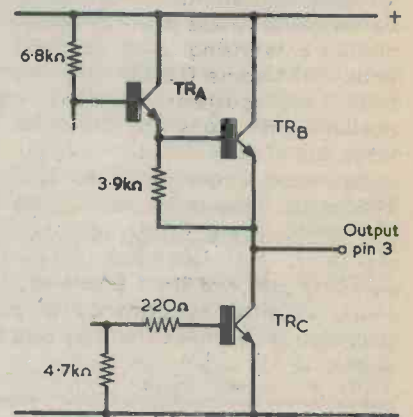
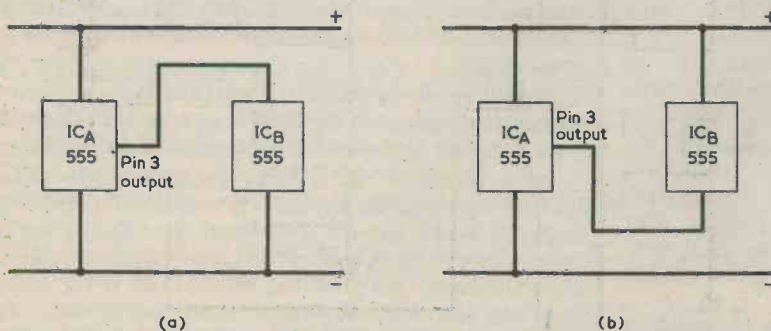

Fig. 2. The internal output stage circuit of the 555. Resistor values are nominal
Fig. 1(a). One way of using a 555 i. c. to switch another 555. The second i. c. is turned on when the output of the first goes high
Fig. 2(a) (b) (c) (d) (e). Section of the receiver "chassis" and case (f) Details of the coil, in which the ferrite rod slides to give selection of the six waveranges (g) S.R.B.P. item onto which switch S1 is secured (h). The drive drum is fitted over the spindle of the switch, the spindle passing through hole J of Fig. 2(b) (i) Side view showing the internal assembly of the main parts of the receiver
Construction commences with the cutting out and drilling of the sections shown in Fig. 2(a) (b) (c) (d) and (e). These provide both the "chassis" and five sides of the case. A second piece of s.r.b.p. should be cut out identical to Fig. 2(e) but without holes U, V, ZA and ZB. This can be fitted opposite Fig. 2(e), forming the sixth side of the case, and can be the side which opens to provide access to the inside of the completed receiver. The small holes, D, E, F, G, and the corresponding four holes in Fig. 2(b) and Fig. 2(e) are for woodscrews used to assemble the parts together. Their exact positioning is not important provided that they are $\frac{1}{8}$ in. from the ends. The woodscrews then pass into the $\frac{1}{8}$ in. plywood edges. The sixth opening side could, instead, be fastened by short lengths of 6BA studding cemented into the plywood, 6BA terminals then securing the side in position. Holes W, X, Y and Z in the sixth side will then need to be $\frac{1}{8}$ in. in diameter. Holes ZA and ZB are for mounting the 10-way tagstrip, the latter being used to mark out their positions.
the backing paper, $\frac{1}{8}$ in. wide, at one of the $2\frac{1}{2}$ in. edges. Wrap the Fablon around the ferrite rod with the exposed strip last, so that it secures the tube thus formed. The rod should be able to move in the tube easily but without wobble. Cut a piece of $\frac{3}{8}$ in. wood dowelling $\frac{1}{2}$ in. long, wrap a turn or two of Sellotape around it to ensure that it is a tight fit and insert it at one end of the tube. Drill a $\frac{1}{8}$ in hole through the tube and the middle of the dowelling as shown in Fig. 2(f). Insert the rod into the tube to strengthen it and, starting $\frac{1}{8}$ in. from the end remote from the dowelling, wind onto the tube 25 turns of 26 s.w.g. enamelled wire, spacing out the turns so that the winding ends $\frac{5}{8}$ in. from the dowelling end of the tube. Use Sellotape to secure the winding ends, but not along the coil.
Mount VC1, VR1 and VR2/S2 to the item of Fig. 2(a) as shown in Fig. 2(i) and Fig. 3 A piece of
Fig. 3. Assembly and wiring of the components. The item of Fig. 2 (g) is omitted for clarity. Note how each setting of S1 allows the ferrite rod to move to a different position inside the coil. Before wiring to S1 confirm with a continuity tester the six outer tags corresponding to the inner switch arm tag. Similarly check the appropriate tags of S2 before wiring to it.
metal foil or thin metal sheet, about 2in. square with a $\frac{3}{8}$ in. hole at the centre, should be fitted between VC1 and the panel to overcome hand capacitance effects. Mount the coil assembly in the following manner. Pass a 1in. 6BA countersunk bolt through hole R of Fig. 2(b) and secure it on the inside with a 6BA nut. Pass the hole at the dowelling end of the coil over the bolt and secure the coil with another nut. Secure with nuts on the inside a 1in. 6BA countersunk bolt at hole P, and a $\frac{1}{2}$ in., 6BA countersunk bolt at hole M. Put two 6BA nuts, locked together, at the end of each bolt. The nylon cord passes over the bolts and the locked nuts prevent it slipping over the bolt ends.
Cut out the item shown in Fig. 2(g) and secure the bush of S1 to this. Fit the $1\frac{1}{2}$ in. drum to S1 spindle with the cord hook away from the switch and
the drum bush well against that of the switch. Make a loop in one end of the nylon cord and pass it through the hole in the side of the drum and over the cord hook. (The cord is fitted to the drum now as it is difficult to reach the hook later). Slip the item of Fig. 2(g) over two 1in. countersunk 4BA bolts passing through holes H and K of Fig. 2(b) and adjust the spacing nuts shown in Fig. 2(h) so that the forward surface of the drum presses lightly against the item of Fig. 2(b). Fit a solder tag over the bolt passing through hole H, then add a third pair of nuts to hold the assembly firm. The pressure on the drum should be just enough to add a little stiffness to the rotation of S1 spindle. The solder tag provides an anchor point, when wiring is carried out, for one of the connections to VR3.
Now fit the 10-way tagstrip to the section of Fig. 2(e) so that it takes up the position shown in Fig. 3. Two 4BA nuts and bolts are required here. The tagstrip is cut from an RS Components "Standard" 28-way tagstrip such that two of the tags which also provide mounting appear at the points marked ZA and ZB in Fig. 3. The tagstrip is secured at these two points with 4BA bolts and nuts. There will be a further mounting tag on the tagstrip but this is not employed for mounting purposes. Wire in small components as in Fig. 3, at this stage, omitting components and wiring between panels and, also, the telescopic aerial and VR3. Assemble the "chassis" to take up the form shown in Fig. 2(i). The telescopic aerial can then be fitted. A solder tag held under its base allows connection to be made to it.
s.r.b.p. item which was cut out at the same time as that of Fig. 2(e).
In Fig. 1 (a) the output of ICA controls the operation of ICB, turning on the latter when ICA output is high. The operating current of ICB (and its immediate circuitry) is supplied, when it is turned on, through the output stage of ICA. In Fig. 1 (b) a similar situation is given, except that ICB is turned on this time when the output of ICA is low. Again, the operating current for ICB is provided by way of the output stage of ICA.
At first sight, there may appear to be little to choose between the two modes of operation but, when we look at the internal output stage inside the 555, we find that there are considerable differences. This output stage is shown in Fig. 2. When the 555 output is high, the high
voltage is maintained by the current passing through the 6.8K Ω resistor into the input base of the Darlington pair consisting of TRA and TRB. The bottom transistor, TRC, is cut off. It will at once be apparent that, even with a negligibly low load current, the output voltage must be less than the positive supply rail voltage by the base-emitter voltage drops in TRA and TRB these drops totalling about 1.2 volts. Further, the output voltage regulation, although quite adequate for normal 555 applications, is by no means perfect, and the output voltage can fall noticeably as load current increases. If, therefore, the switching circuit of Fig. 1 (a) is employed, the supply voltage provided through ICA to turn on ICB will be at least 1.2 volts below the positive rail and can be lower again if ICB draws a high current.
Returning to Fig. 2 the output state given when the 555 output is low is provided by having TRA and TRB cut off, and TRC turned hard on. In this case the voltage drop between TRC emitter and collector will be typically less than 0.1 volt at low currents, rising to only slightly higher than some 0.2 volt at quite high load currents. Currently available 555 i.c.'s appear to be particularly good in this respect, those checked by the author exhibiting less than 0.2 volt drop at load currents of the order of 25mA and more. In consequence, the switching circuit of Fig. 1 (b) offers a better potential performance than does that of Fig. 1 (a): it allows very nearly the full supply voltage to be applied to the 555 which is controlled, and the applied voltage has good regulation. A further point not yet considered is that an unwanted amplification loop could be set up between the two i.c.'s when they share a common impedance. In Fig. 1 (b) the common impedance is a transistor which is turned hard on, and this can be almost completely relied on to break such a loop. As we shall see shortly, there can be another reason for preferring the approach shown in Fig. 1 (b).